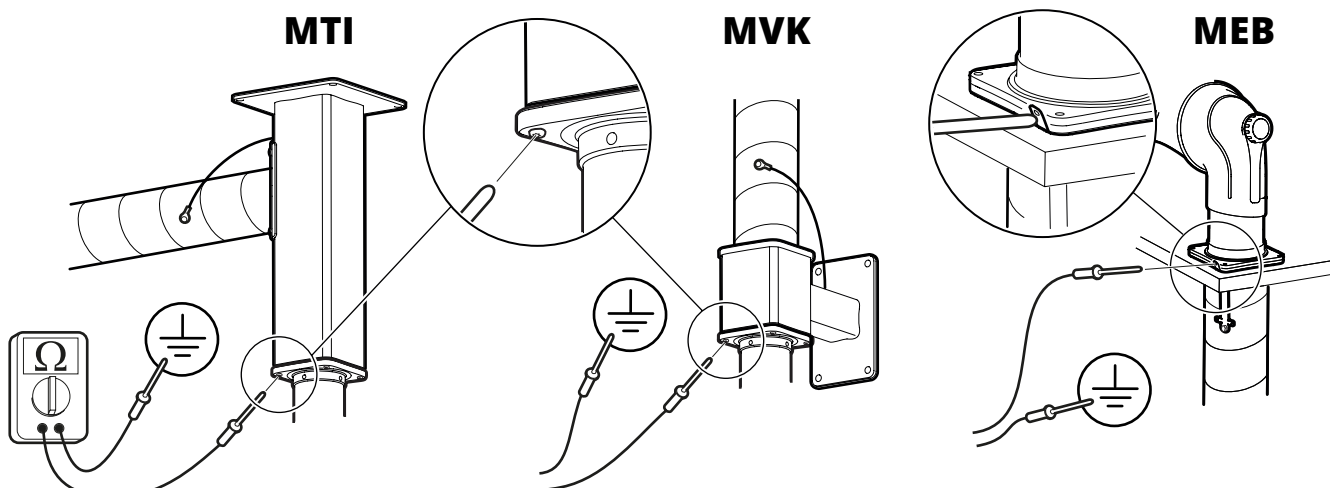

Fig. 13
4. Check the earth resistance with a calibrated ohmmeter. See **Fig. 13**. The resistance between the measuring points (earth plane/product) must be less than 1 MΩ.